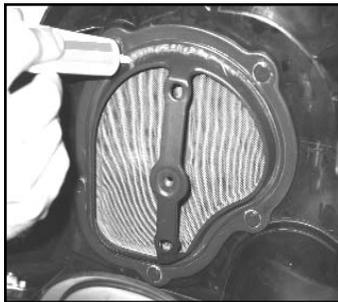

Fig. 1
3. Apply the provided K&N Sealing Grease to the groove of the air filter holder. (Fig. 1)